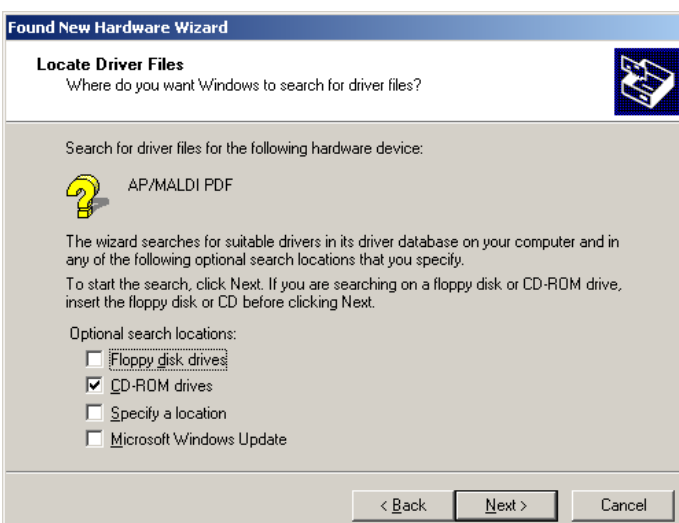

Figure 134 Select only the CD-ROM drives
- 5 Select only the CD-ROM drives as locations to search for the driver. Then click Next. See Figure 134.